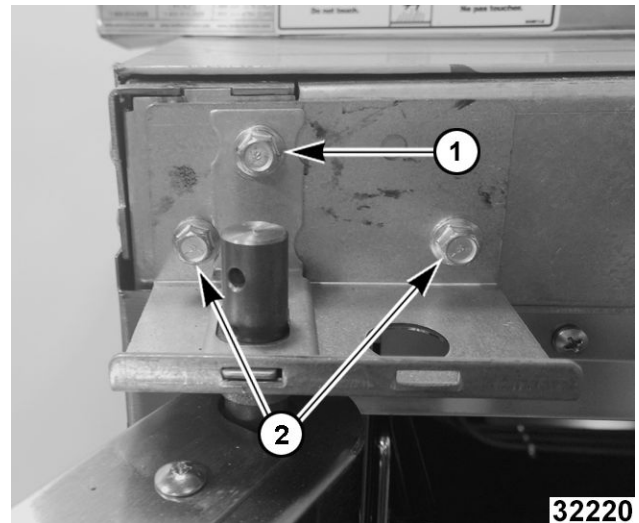

Fig. 44
- 6. While supporting door, remove hex head bolts holding upper bearing retainer (1, Fig. 44) and upper shaft bracket (2, Fig. 44).